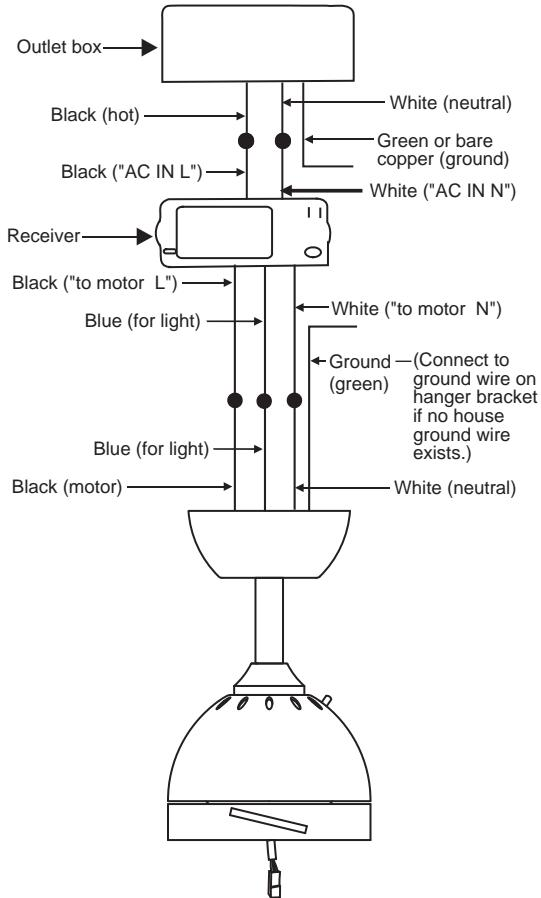

Fig. 14
Step 2. Motor to Receiver Electrical Connections: (**Fig. 14**) Connect the black wire from the fan to the black wire marked "TO MOTOR L" on the receiver. Connect the white wire from the fan to the white wire marked "TO MOTOR N" on the receiver. Connect the blue wire from the fan to the blue wire marked "FOR LIGHT" on the receiver. Secure all the wire connections with the plastic wire nuts provided.
Step 3. (Fig. 14) Receiver to House Supply Wires Electrical Connections: Connect the black (hot) wire from the ceiling to the black wire marked "AC IN L" from the receiver. Connect the white(neutral) wire from the ceiling to the white wire marked "AC IN N" from the Receiver. Secure the wire connections with the plastic wire nuts provided.
Step 4. (Fig. 14) If your outlet box has a ground wire (green or bare copper) connect it to the fan ground wires; otherwise connect the hanging bracket ground wire to the mounting bracket. Secure the wire connection with a plastic nut provided. After connecting the wires, spread them apart so that the green and white wires are on one side of the outlet box and black and blue wires are on the other side. Carefully tuck the wire connections up into the outlet box.